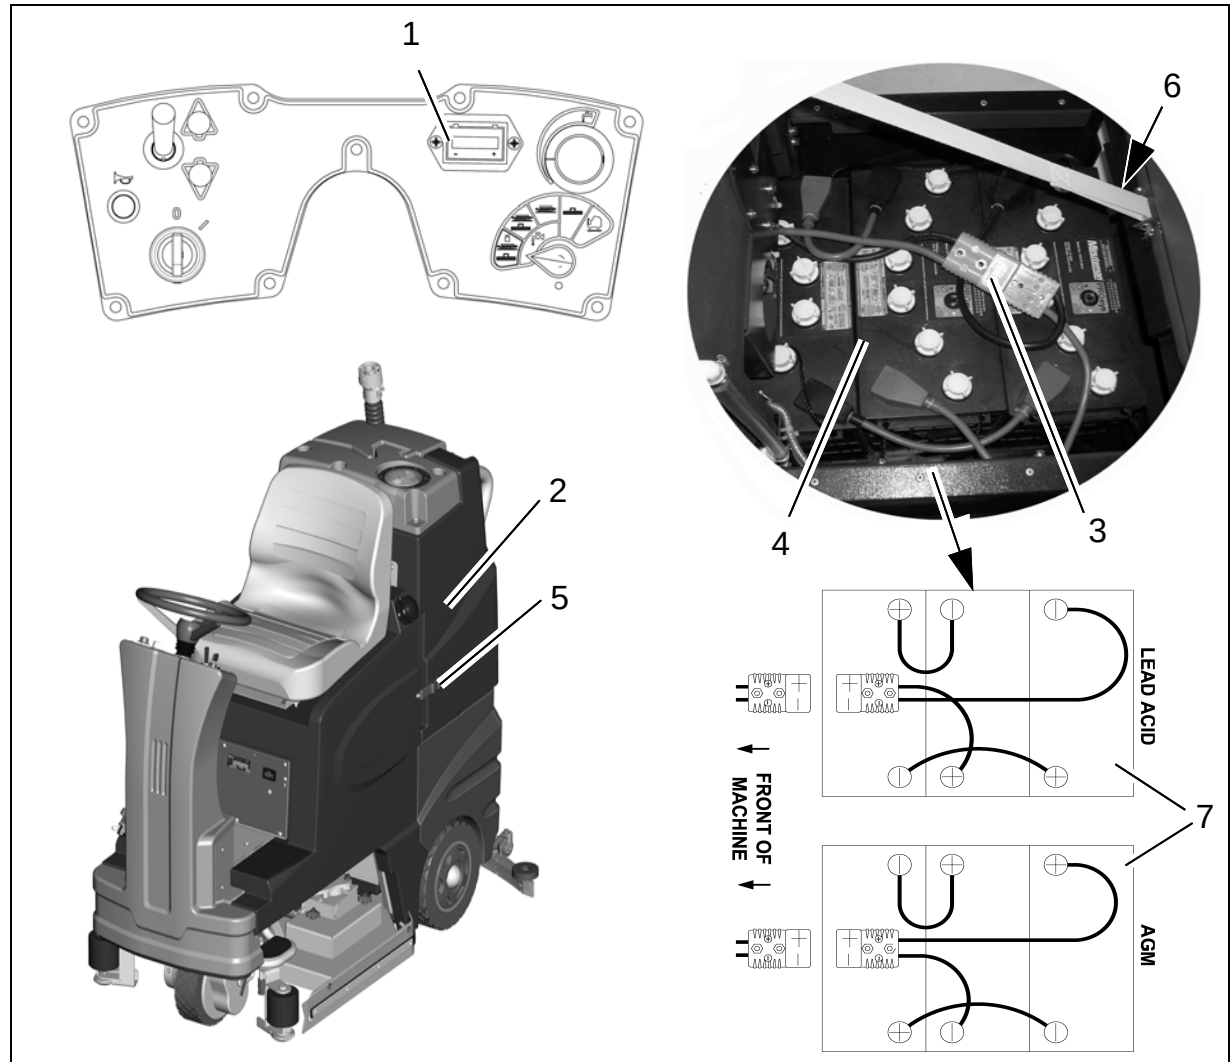

Fig.12
Connect the charger to the battery connector (Fig. 12/3) Charging batteries is recommended if at least one bar of the battery gauge has extinguished after operation of the machine. Observe the operating instructions of the charger as well as the operating instructions of the battery manufacturer. In case it is intended to change the type of battery the charger has to be adjusted only by PowerBoss contract workshops.
3. Open empty recovery tank (Fig. 12/2) and secure by strap (Fig. 12/6).
4. Disconnect battery connector (Fig. 12/3).
2. Open empty recovery tank (Fig. 12/2) and secure by strap (Fig. 12/6).
4. Connect battery poles and enclosed connecting cables according to battery connection/layout (Fig. 12/7). Tighten and grease poles.